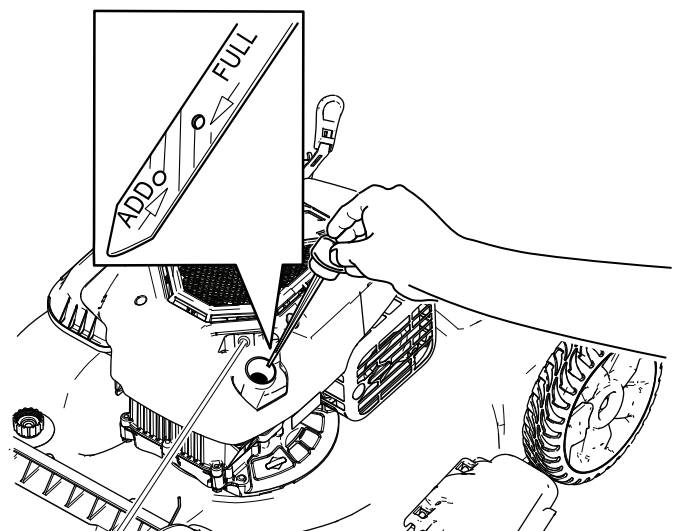

Figure 6
- Remove the dipstick by rotating the cap counterclockwise and pulling it out (Figure 6).
6. Read the oil level on the dipstick (Figure 6).